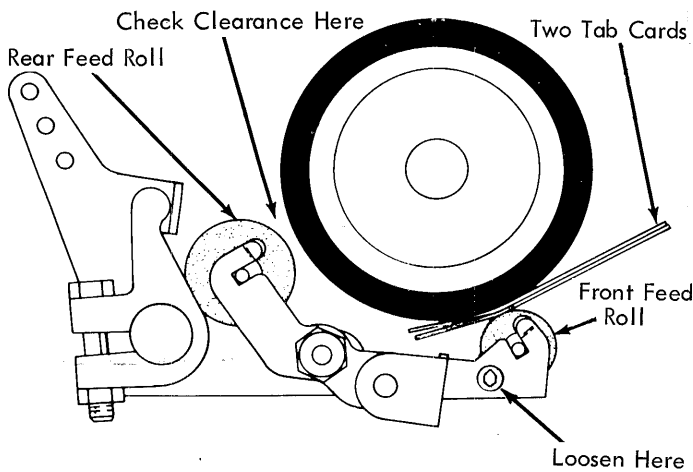

FIGURE 262. Feed Roll Adjusting Arm (Late)
- b. Late - The front feed roll adjusting arms should be adjusted as follows: When two tab cards are placed between the front feed rolls and the platen, the rear feed rolls should clear the platen (Fig. 262). When one tab card is placed between the front feed rolls and the platen, the rear feed rolls should touch the platen.